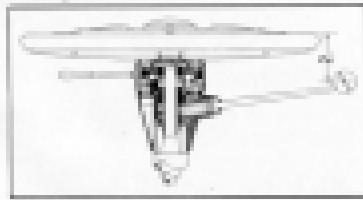

Fig. 341. Adjusting Shift Lever Vertical Position.
2. Remove adjuster rod clevis pin at "A", Fig. 342, and adjust clevis to obtain a vertical distance of $2 \frac{11}{16}$ " between the top of steering wheel rim and top of shift lever knob, when clevis pin just slides freely through hole. (See Fig. 341.)